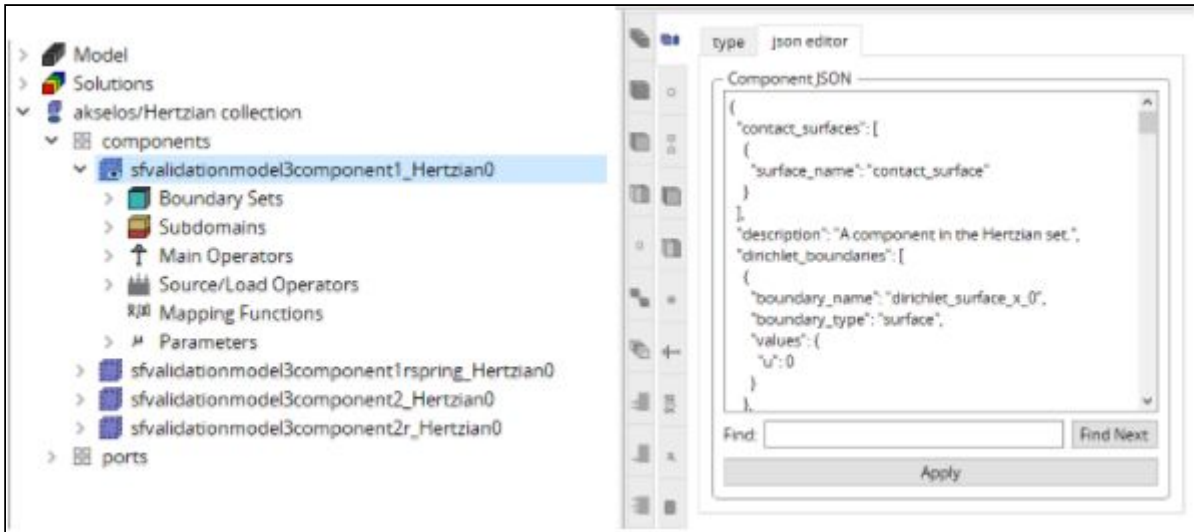

Figure 5: Create Contact surfaces
- The model geometry and FE mesh are shown in Figure 5. It also includes the symmetry boundary conditions on the green surfaces which represent only one quarter of the domain. The base of the cylinder domain is clamped, and we impose